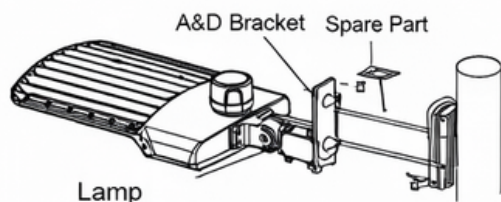

Figure 13
Step 1: Remove the spare parts from ADM bral. (Figure 13).
Step 2: Place the bracket on the fjdure. (Figure 13)